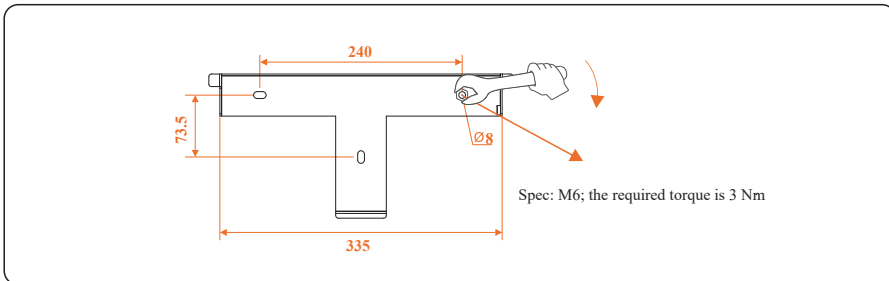

Figure 4.13 Installing the rear panel
- Step 5** Align the rear panel with the holes, insert expansion bolts into the holes through the rear panel, and tighten the expansion bolts to a torque of 3 N·m using a torque wrench, as shown in Figure 4.13.